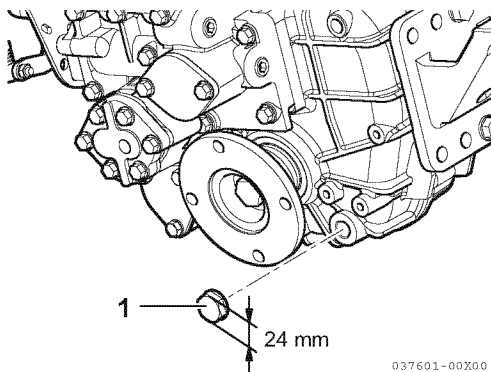

Figure 1
2. Use a 24 mm wrench to remove the M16 drain plug (1, **Figure 1**).